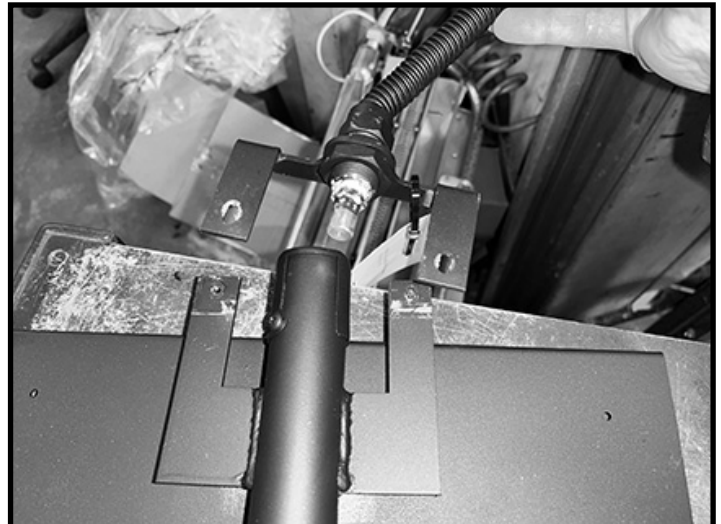

Figure 21: Orifice exposed.
3. Remove the manifold assembly from the burner (Figure 21).